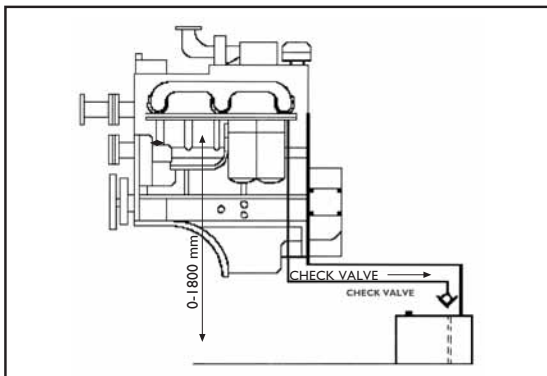

Figure 4.7 Typical fuel drawing of a fuel tank placed below the engine
- ! In the simplest tank settlement, the fuel level should not be above the injectors and should not be lower than the fuel pump for more than 1.8 m, see Figure 4.7.